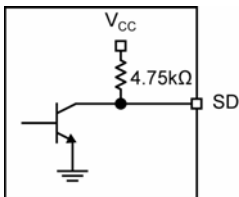

Figure 4. SD Output Structure
The SY88933AL generates a chatter-free SD open-collector TTL output with an internal $4.75\text{k}\Omega$ pull-up resistor as shown in Figure 4. SD is used to determine that the input amplitude is large enough to be considered a valid input. SD asserts high if the input amplitude rises above the threshold set by SD_{LVL} and de-asserts low otherwise. SD can be fed back to the enable (EN) input to maintain output stability under a loss of signal condition. EN de-asserts the true output signal without removing the input signals. Typically, 3.4dB SD hysteresis is provided to prevent chattering.